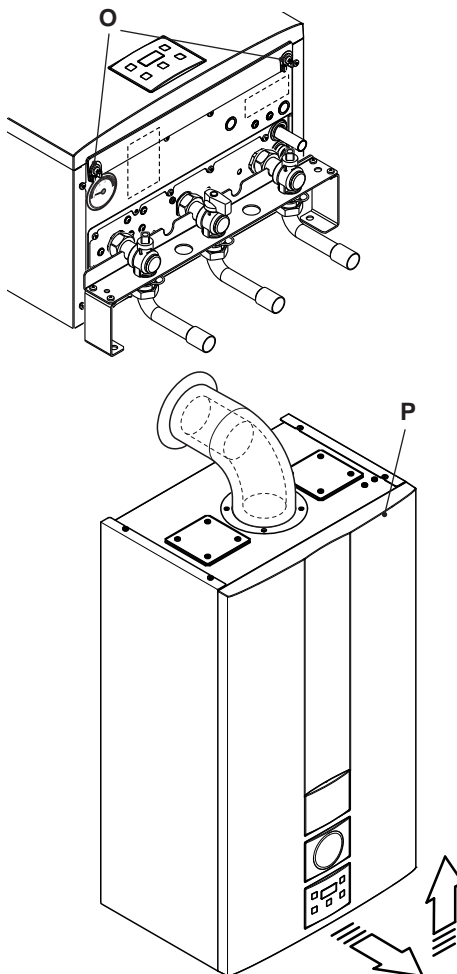

Fig. 6.14
- Unscrew screws " O " and remove the front panel " P " by pulling it and pushing it towards the top so that it is freed from the top housing Fig. 6.14.